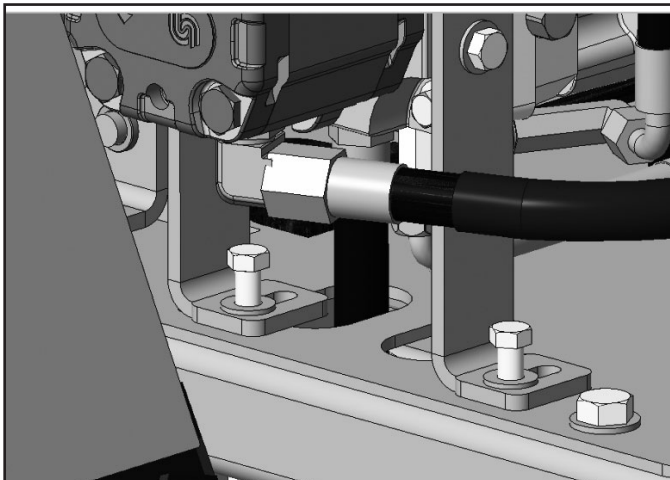

Figure 49: Pump mount bracket bolts
4. Loosen and back out but do not remove 2 pump mount bracket bolts as shown in **Figure 49**.